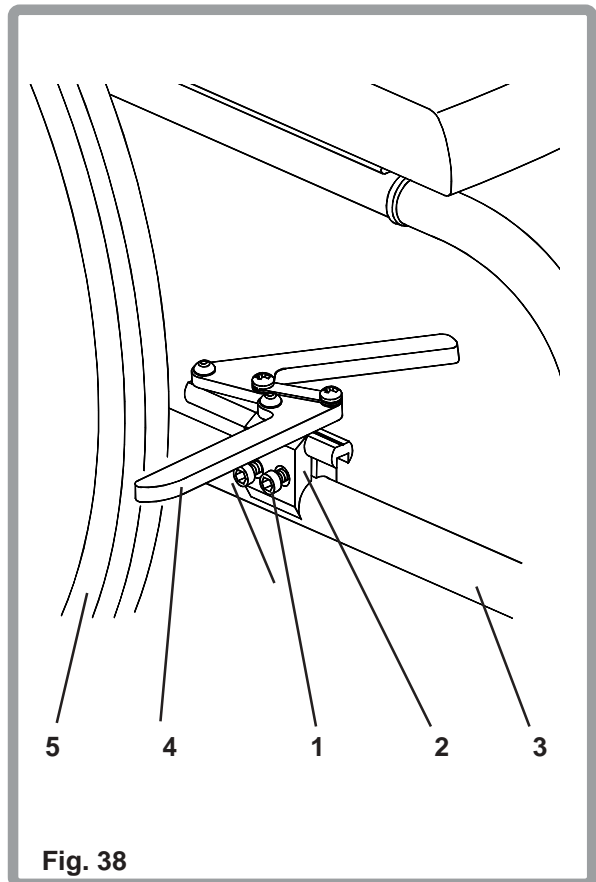

Fig. 38
To adjust low mounted wheel locks the two retaining screws (1) must be loosened a $\frac{1}{4}$ turn at a time, using a 5mm A/F Allen key, alternating between the two screws until the clamp (2) can slide along the frame tube (3). The grip bar (4) must embed into the tyre (5) approximately 4mm ($\frac{3}{16}$ ") to be correctly set. When the correct setting is achieved tighten the retaining screws $\frac{1}{4}$ turn at a time to a torque setting of 15Nm (Fig. 38).